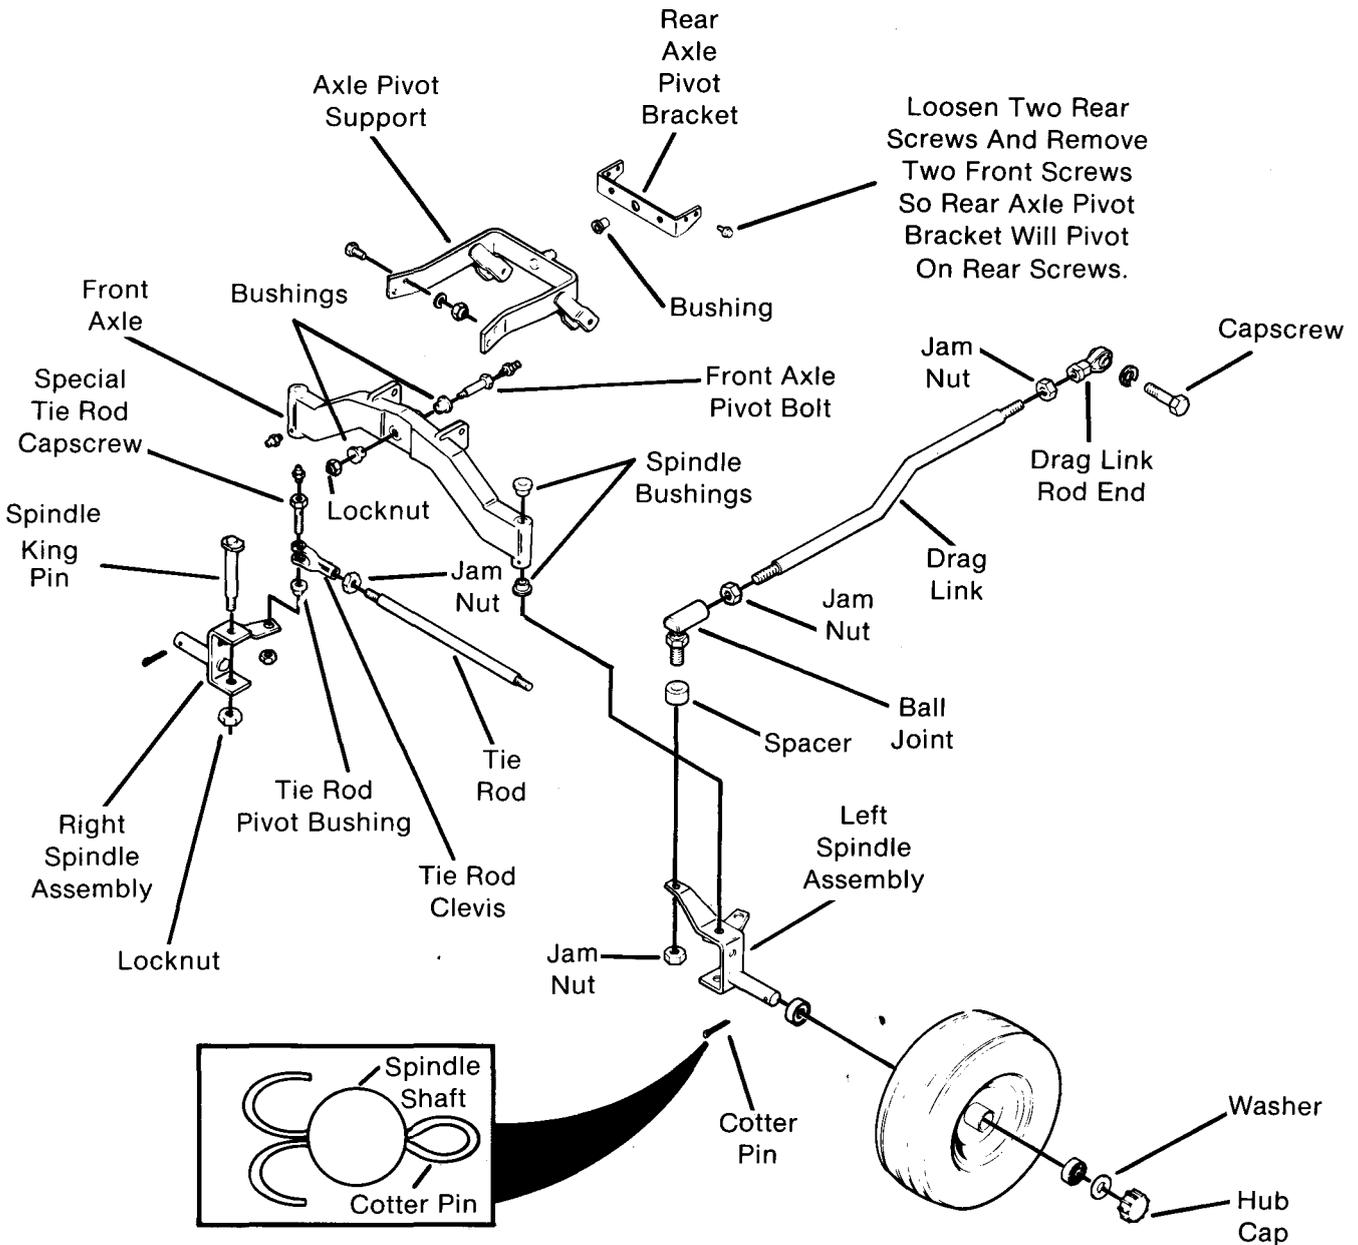

FIG. 23
- C. Remove jam nut on front drag link ball joint under left spindle assembly steering arm. (Fig. 23)
- D. Remove ball joint from left spindle assembly steering arm by threading ball joint out of steering arm. Ball joint spacer between ball joint and steering arm should be removed also at this time. (Fig. 23)
- E. Loosen (do not remove) two rear capscrews holding rear axle pivot bracket to main frame. Remove two front capscrews completely. (Fig. 23)
- F. Holding locknut on front of axle, remove front axle pivot bolt and pull bolt out towards rear of machine. (Fig. 23)
- C. Service tie rod assembly as required. Also, check condition of pivot bushings in spindle assembly. Replace bushings if worn. (Fig. 23)
- B. Remove hub cap, cotter pin and washer from end of spindle shaft. (Fig. 23)
NOTE: When replacing cotter pin into spindle shaft, cotter pin should be spread properly around spindle shaft. See detail (Fig. 23). This will prevent cotter pin from destroying hub cap.
- D. Remove locknut and special capscrew attaching tie rod clevis to spindle assembly. Remove pivot bushing from spindle assembly. (Fig. 23)
- E. Remove locknut on bottom of spindle king pin. Remove king pin. (Fig. 23)
- F. **On left spindle only!** Remove jam nut on front drag link ball joint under left spindle assembly steering arm. Remove ball joint from left spindle assembly steering arm by threading ball joint out of steering arm. Ball joint spacer between ball joint and steering arm should be removed also at this time. (Fig. 23)
- A. Remove capscrew and lockwasher attaching rear draglink rod end to pitman arm (Fig. 23)
- B. Remove jam nut on front drag link ball joint under left spindle assembly steering arm. (Fig. 23)
- C. Remove ball joint from left spindle assembly steering arm by threading ball joint out of steering arm. Ball joint spacer between ball joint and steering arm should be removed at this time. (Fig. 23) Remove drag link assembly.
- a. Loosen jam nut on left end of tie rod securing tie rod clevis to tie rod. (Fig. 23)
- b. Remove special capscrew (w/grease fitting) at left end of tie rod by removing the locknut. (Fig. 23)
- b. Remove capscrew and lockwasher that attach rod end to pitman arm assembly. Detach rod end. (Fig. 23)
- E. Remove capscrew and lockwasher that attach drag link rod end to pitman arm assembly. Detach rod end. (Fig. 23)